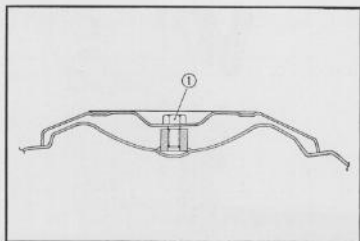

Fig. 4.46 Cross-sectional view of side cover installation
- 2) Use the proper size bolt (6×10 mm hex bolt) ① to install the side cover on the tank. Long bolt will bottom on the tank and result in puncture. (Fig. 4.46)